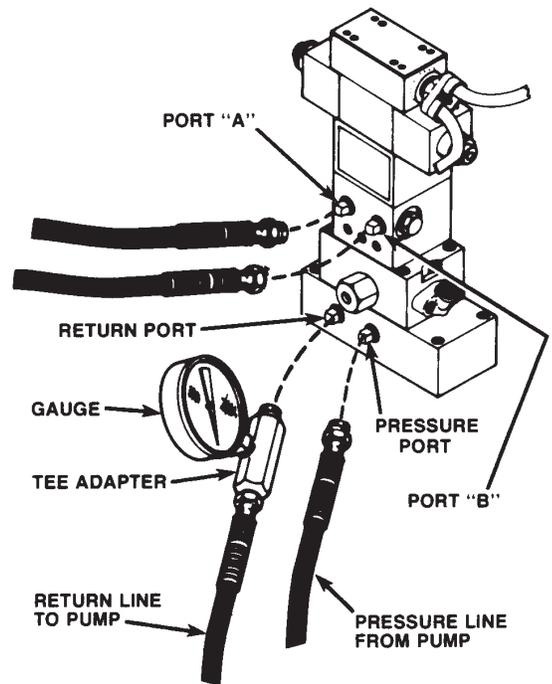

FIGURE 2
3. Install a temporary set-up of a hydraulic gauge mounted to a tee adapter, directly into the oil return port of the valve (see Figure 2).